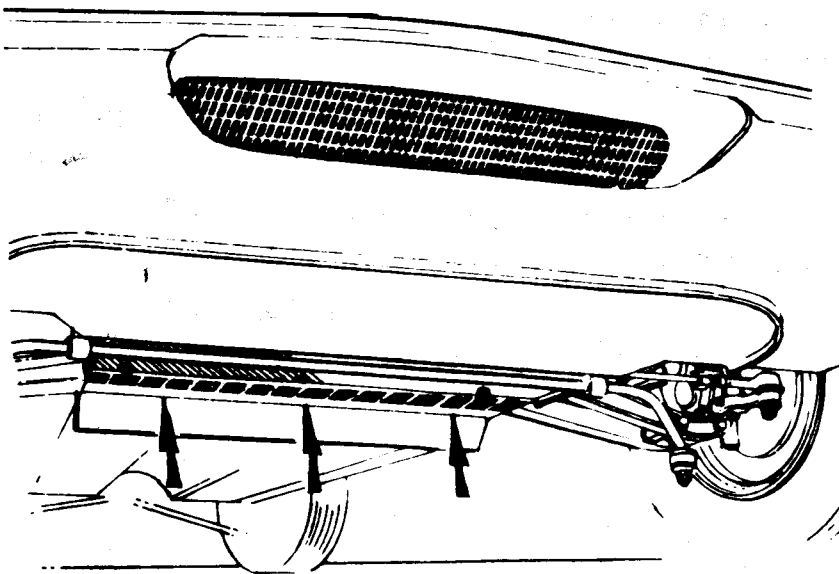

Fig. 6 - Chassis Stand Position.
Raise the front of the vehicle after applying the handbrake and chocking the rear wheels front and rear. Support the front of the vehicle by placing a trestle or stands beneath the chassis cross member, immediately behind the chassis closing plate in the position indicated in Fig. 6. Remove the front wheels.
7. Screw the locknut on to the end of the rack so that its position corresponds with dimensions 3 + 4 + 5 + 3 on Fig. 6, i.e 24.42 in. (62,03 cm).between inner locknut faces.